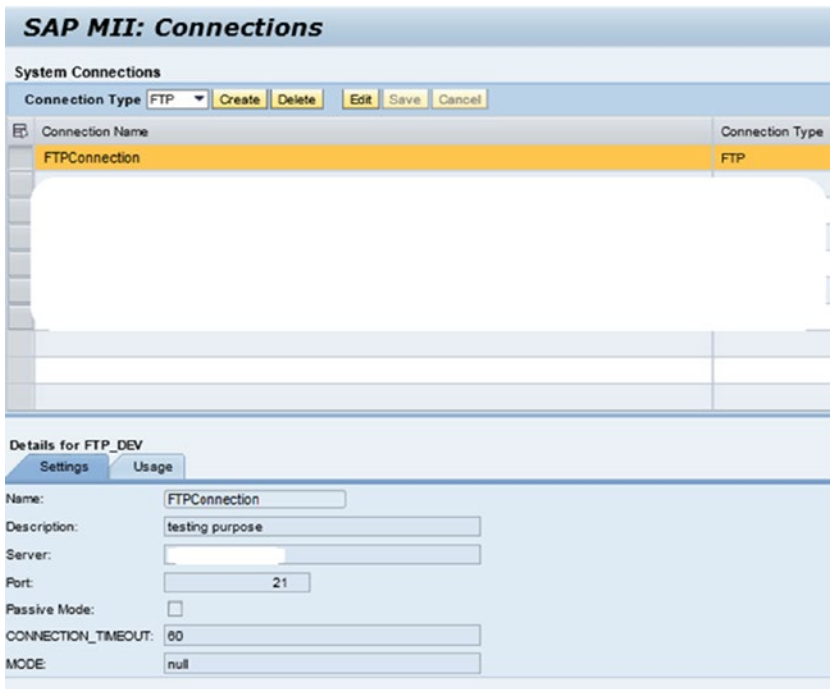

Figure 6-93. FTP Connections configuration
4. Now provide the server IP and port of the destination system and save, as shown in Figure 6-93.